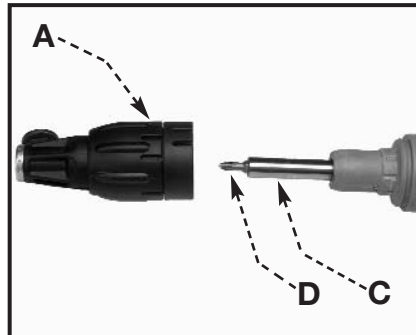

Fig. 2
1. Pull the Depth Stop Assembly (A) Fig. 2 from the clutch housing.
2. Pull the bit holder (C) Fig. 2 out. If it is difficult to remove, grip it with pliers and pull.
NOTE: Bit (D) Fig. 2 may be removed from the bit holder by pulling it straight out.